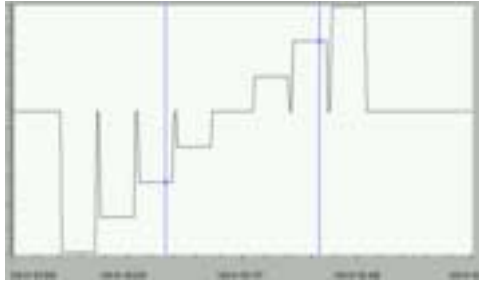

Figure 6-8: An example of a step protocol punctuated by returns to baseline between steps.
- To create a step protocol where the voltage returns to a baseline value between steps, alter the **Time Off** to a number greater than zero. The resulting wave would be similar to that seen in Figure 6-8 on page 89.